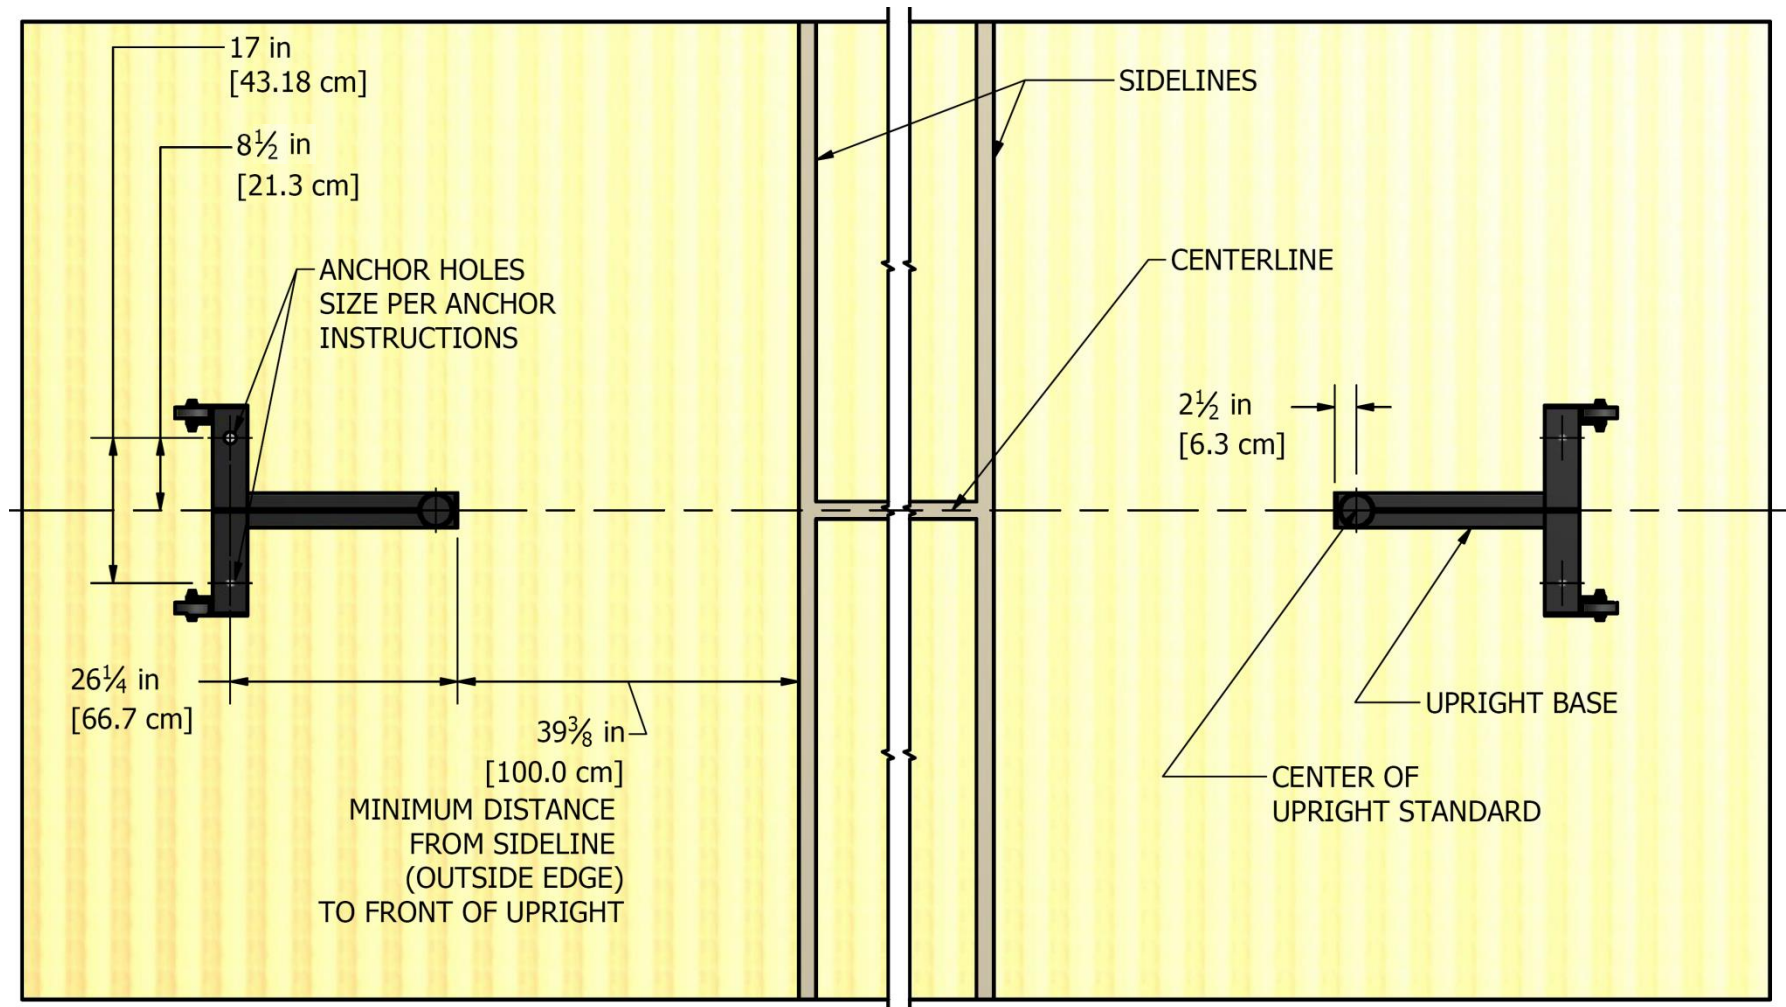

Figure 3-1: Correct floor anchor layout.
- The anchors must be installed 17" apart on center (see Figure 3-1).